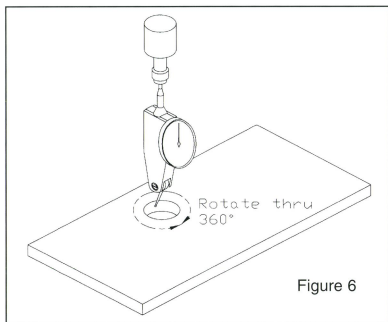

Figure 6
5. Locating the center of a hole. Refer to figure 6. The hole is centralised when the reading does not change when the mill head is rotated through 360 degrees.
6. Centralise a vertically mounted dividing head or a rotary table. Same as above via the hole in the center of the devices. Carry out item 2 first, for the dividing head.